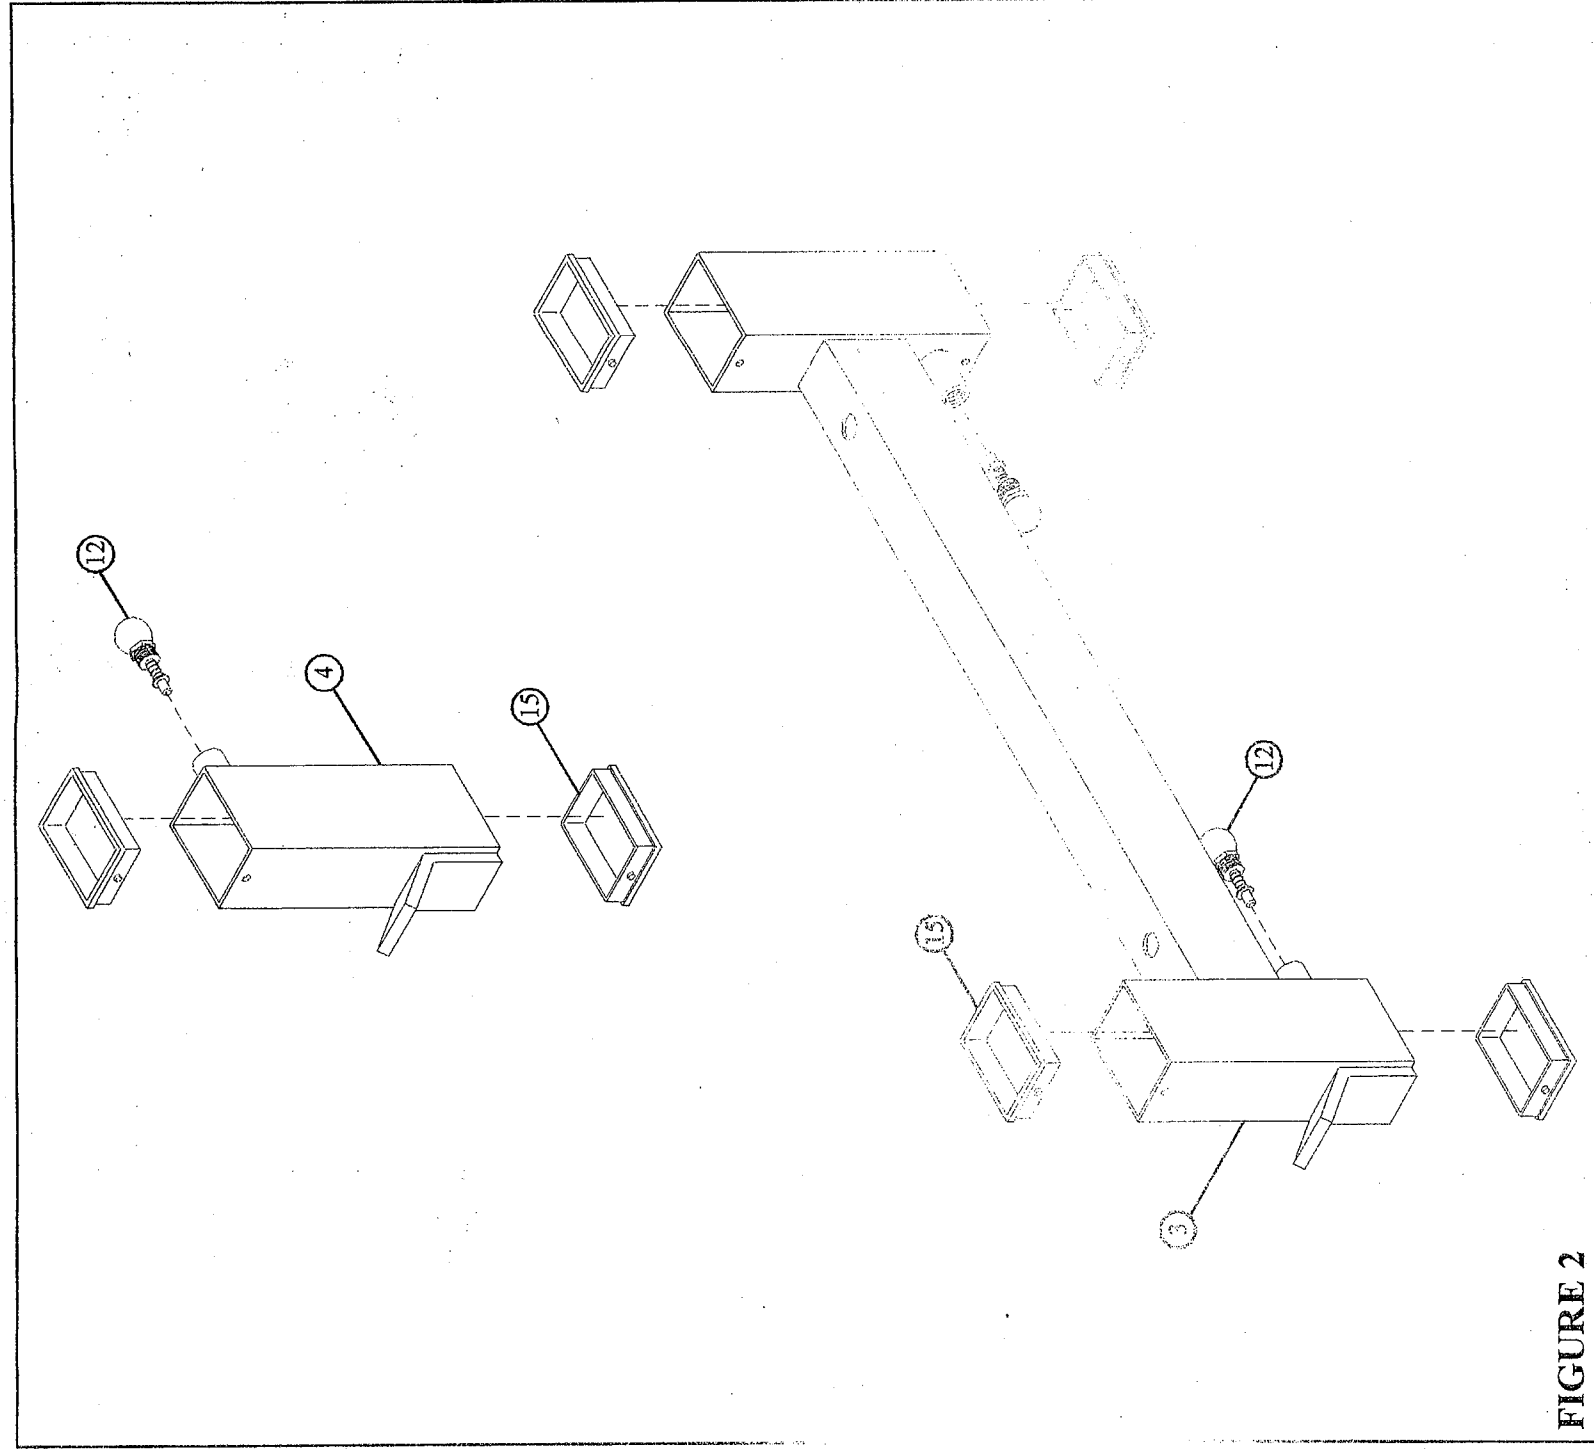

FIGURE 2
- Insert twelve 3 X 2" INSERT GUIDES (15) into the ends of each SAFETY RAIL (3) and BAR SUPPORT (4) as shown in FIGURE 2. (NOTE: Make sure the INSERT GUIDES (15) snap into the holes of the weldments.)
- SECURELY assemble the six SPRING PIN ASSEMBLIES (12) to the SPRING PIN BARRELS on each SAFETY RAIL (3) and each BAR SUPPORT (4) as shown in FIGURE 2.